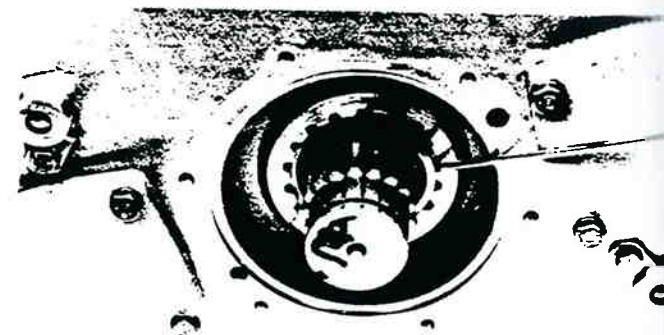

Figure 13-34. Removing Retaining Ring.
2. Remove the retaining ring from I.D. of the mainshaft reverse gear (figure 13-34).